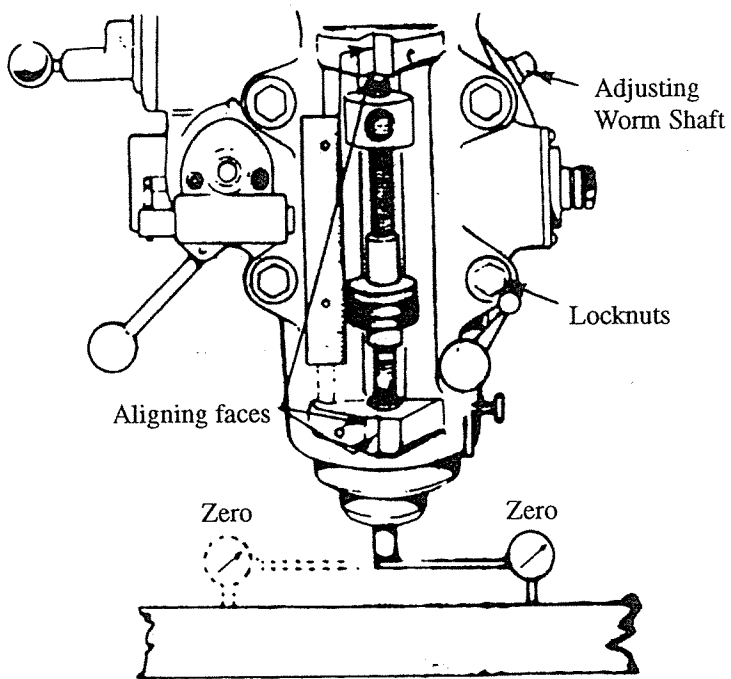

Fig. 2-2 Head Alignment (X Axis)
2. Mount a dial indicator to the quill as shown in Fig. 2-2.